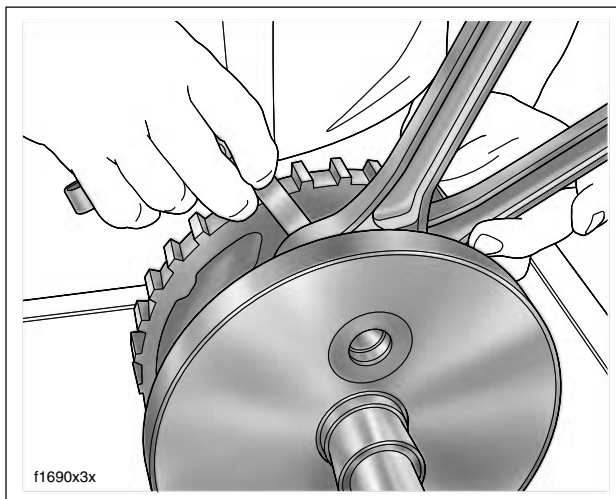

Figure 3-136. Check Connecting Rod Side Play
3. Insert a feeler gauge between the thrust washer and the outboard side of the connecting rod. See Figure 3-136. Replace the assembly if rod side play exceeds 0.020 inch (0.51 mm).